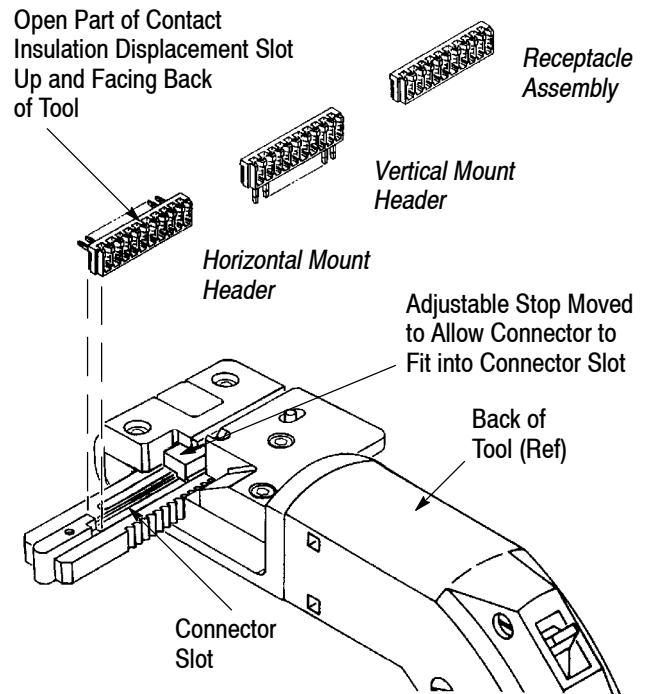

Figure 3
2. Orient the connector with the head assembly as shown in Figure 3 — the open part of the insulation displacement slot is up and facing the back of the tool. Making sure that the connector slot is large enough to accept the connector, fit the connector in slot. Then move the adjustable stop flush against the connector, and tighten the socket head cap screw securing the connector to the head assembly.